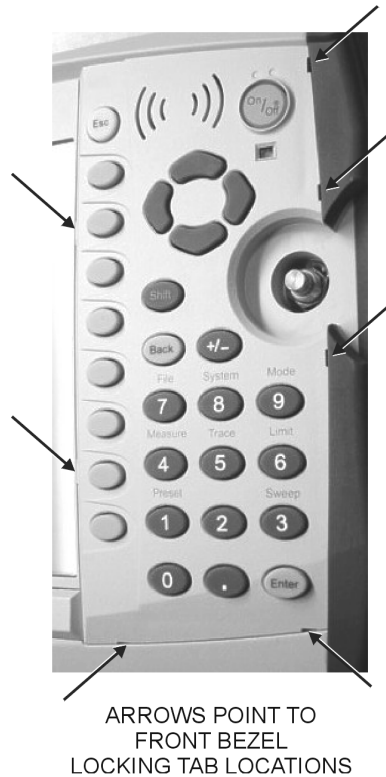

Figure 3-9. Front Bezel Locking Tabs
2. Seven locking tabs hold the main numeric keypad bezel to the case. Using a small flat-blade screwdriver, carefully pry the main numeric keypad bezel locking tabs free of the main body of the case (Figure 3-9). This will expose the main numeric keypad membrane.